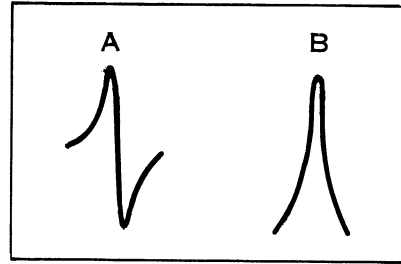

Figure 6-10. Ratio Detector and Sound I-F Response Curves
- b. Connect sweep and marker generators to receiver as directed in set manufacturer's instructions. Figure 6-10 A shows the nature of the response curve which will be displayed. Faithful sound reproduction requires that the central slope of the curve be a straight line.
- c. A curve, similar to that shown in Figure 6-10 B, will be obtained if the probe is connected to the grid return of the limiter stage.